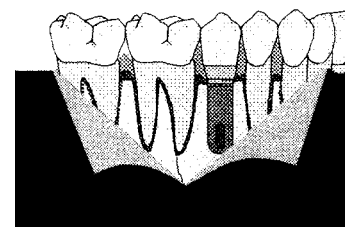

Fig 8
8. The abutment and the final restoration are returned to the mouth for try-in and evaluation. All adjustments are made and the restoration is held into place with the prosthetic screw (Fig. 8). The recommended torque for the prosthetic screw is 20 Ncm.